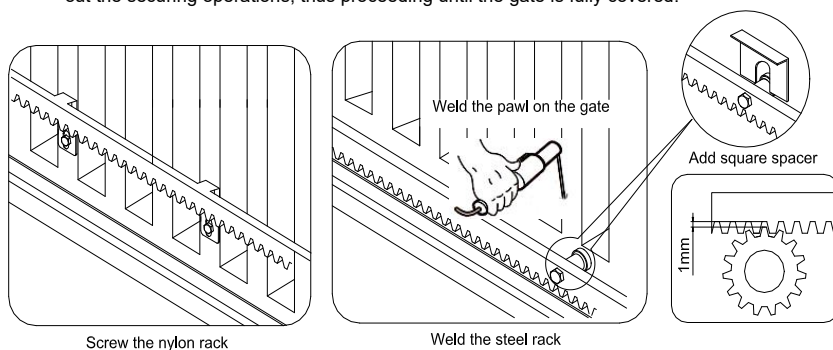

Fig.6
### Installing the rack (see Fig.6)
- If necessary, assemble the spacer between the rack and pawl to synchronise the teeth of the two rack elements and keep racks in a straight line. See Fig.6